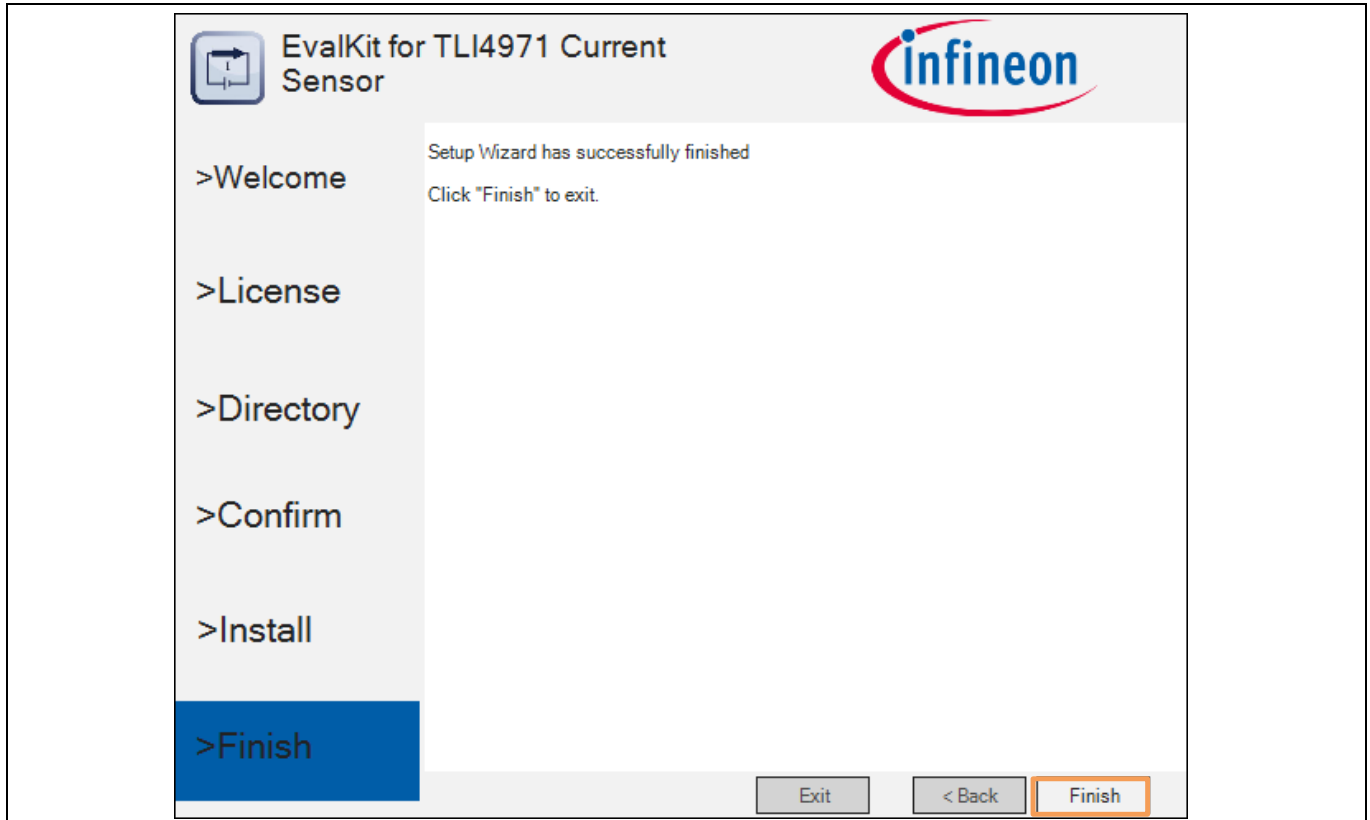

Figure 23 EvalKit Installer 1.0.2 –Installation Completed
- Click “**Finish**” button which has shown in the below Figure 23 to complete the Evalkit software GUI installation.